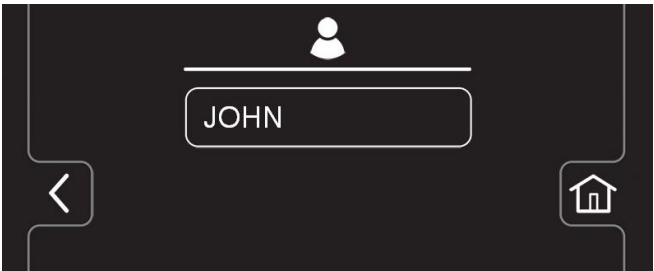

FIG. 157
7. The new user profile is now saved to the operator profile list as shown (Figure 157). Multiple Operator and Supervisor user profiles can be added. Press the back arrow to return to the previous screen to add more user profiles.